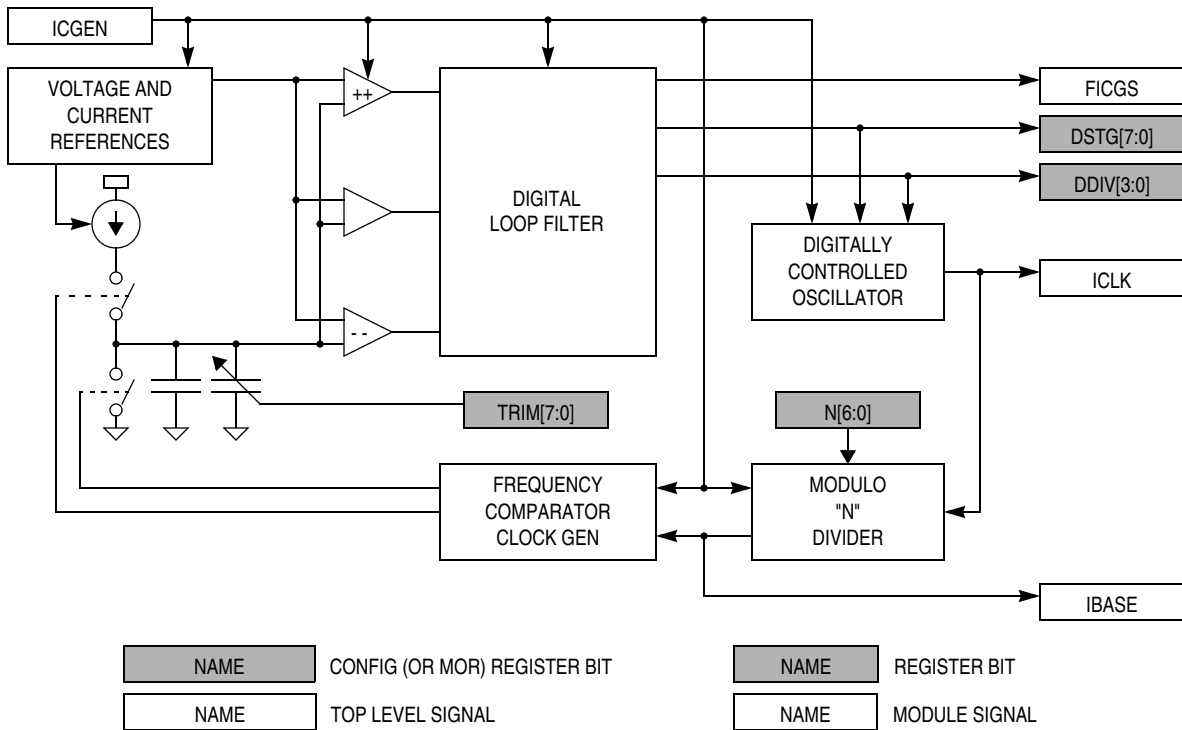

Figure 7-2. Internal Clock Generator Block Diagram
The ICG, shown in Figure 7-2, creates a low frequency base clock (IBASE), which operates at a nominal frequency ( $f_{NOM}$ ) of 307.2 kHz  $\pm$  25%, and an internal clock (ICLK) which is an integer multiple of IBASE. This multiple is the ICG multiplier factor (N), which is programmed in the ICG multiplier register (ICGMR). The ICG is turned off and the output clocks (IBASE and ICLK) are held low when the ICG enable signal (ICGEN) is clear.